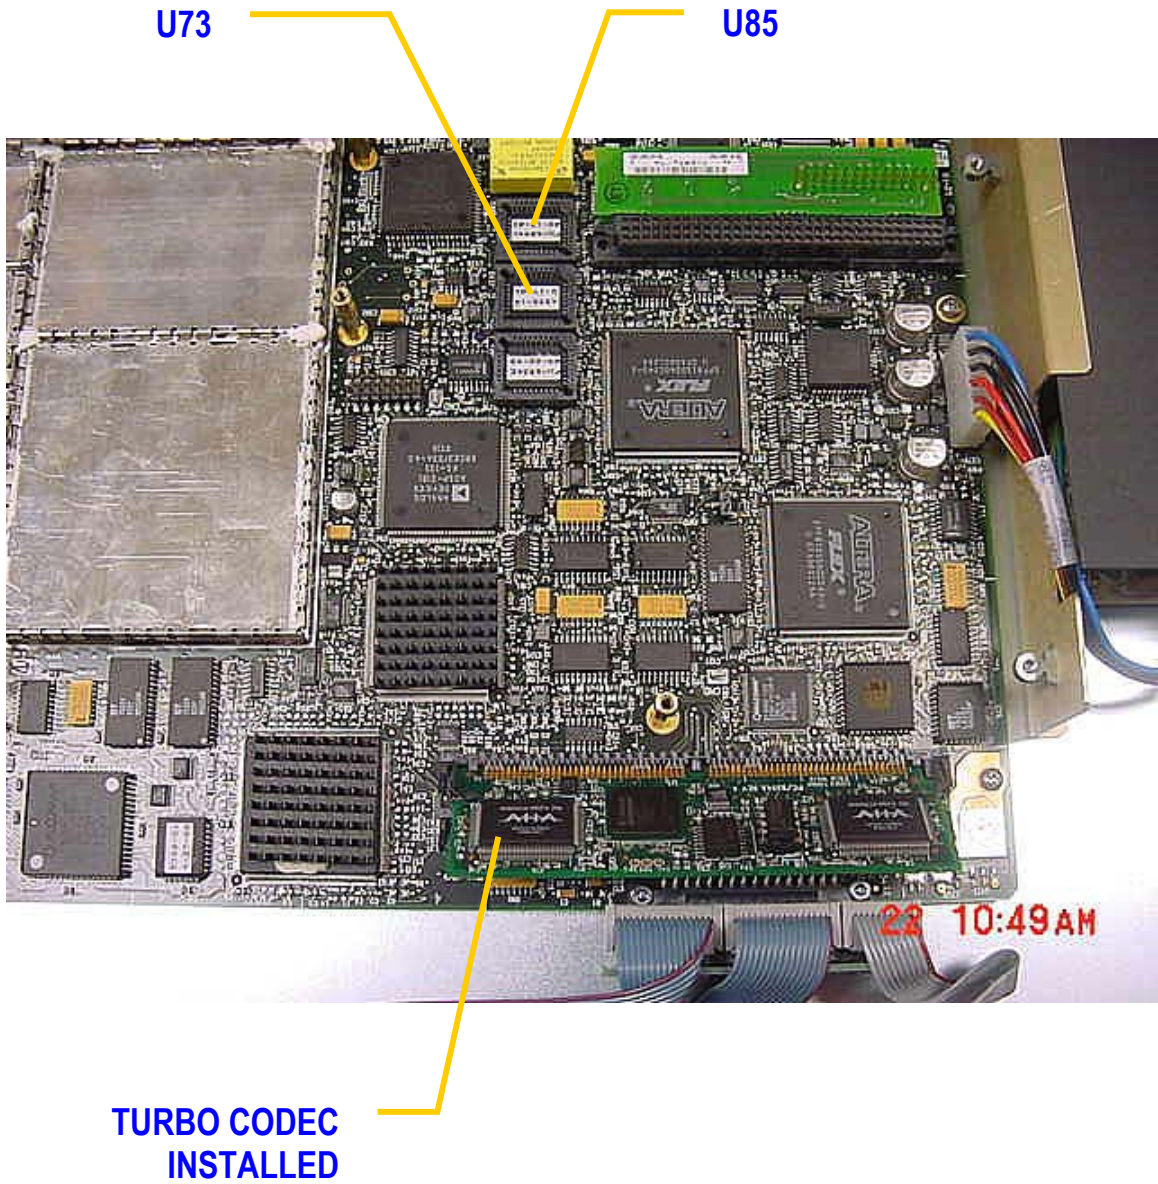

Figure 3
5) **Turbo installation, refer to Figure 3.** Align the Turbo board with either of the SIMM sockets while holding it nearly vertical with components toward Rear Panel. Seat the connector into the socket and tilt the board toward the Front Panel until the spring clips lock the board into place.
6) **Firmware installation, refer to Figure 3. If replacement Firmware IC's where sent with the Turbo Board**, Remove existing Firmware, U85 and U73 with PLCC type IC puller. If puller not available, use ice pick type tool to alternately, carefully pry upward at opposite corners of IC.